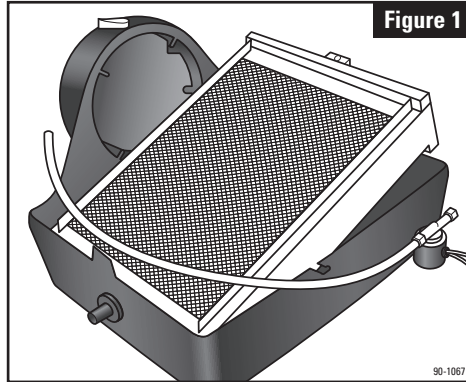
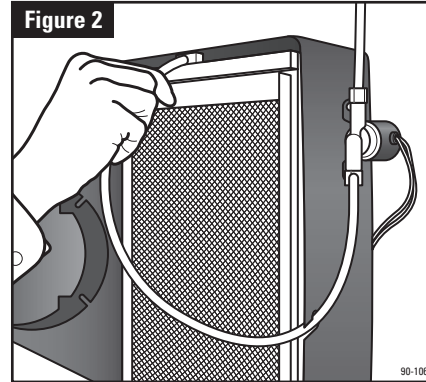

Figure 1
Figure 2
1. Press top & bottom tabs to remove cover (1). Pull feed tube (3) out of distribution tray (4). Remove Water Panel® Evaporator assembly. See **Figure 1**.
2. Humidifier is supplied with bypass duct connection on left. For right side bypass, swap location of drain spud (9) and cap (10). Twist to remove spud and cap.
4. Place humidifier base (2) in opening and secure with 6 screws in openings provided.
6. Insert Water Panel Evaporator assembly into base. Make sure bottom of scale control insert (6) is in drain spud. Snap top of evaporator assembly into base.
Insert feed tube into distribution tray. See **Figure 2**. Rotate nameplate (11) if necessary, so it is right side up. Place point bypass damper handle (8) to "WINTER" (open) for heating season and "SUMMER" for cooling season.